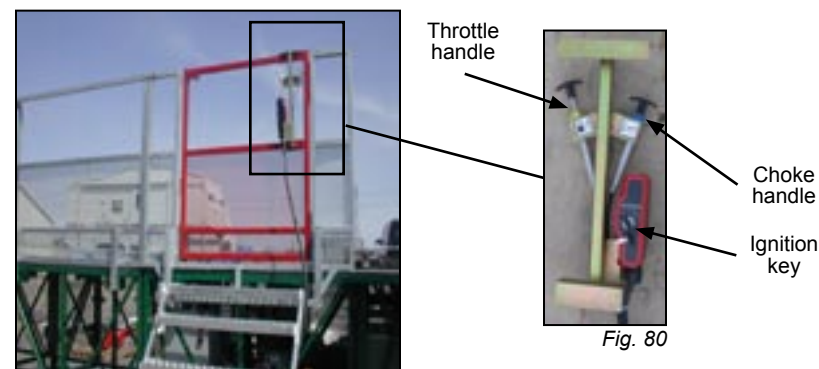

Fig. 79 Engine controls station
- 3- Pull the engine controls station (fig. 79) completely out of its storage position in the toolbox. Attach it to the guardrail and bolt it in position.